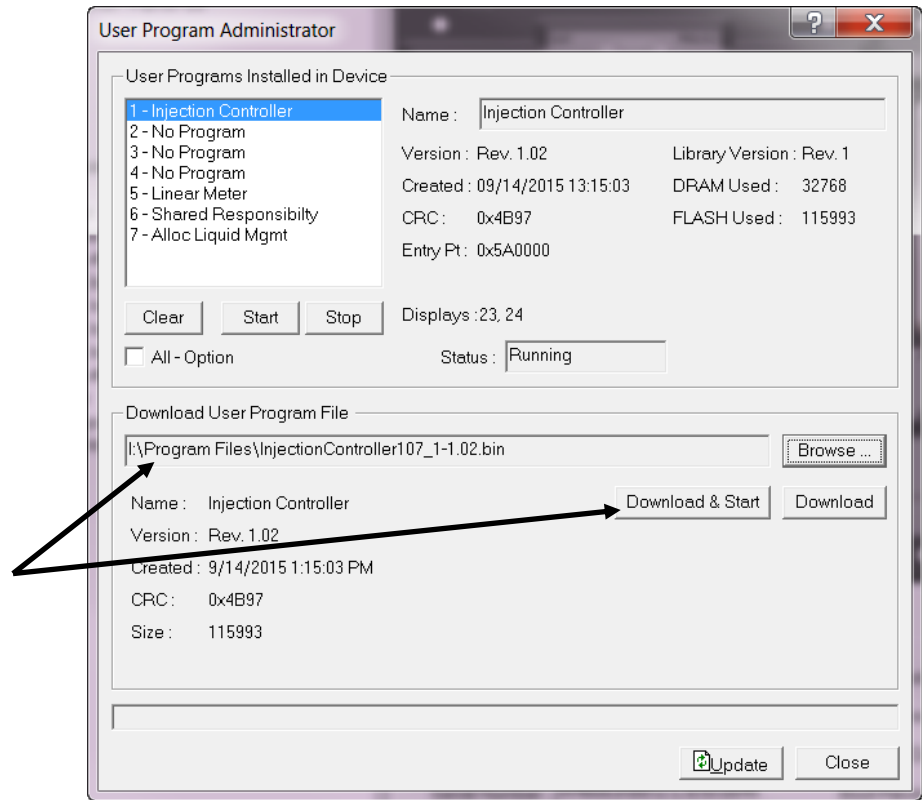

Figure 9. User Program Administrator
7. Click **Open** to select the program file. The User Program Administrator screen displays. As shown in *Figure 9*, note that the Download User Program File frame identifies the selected program and that the **Download & Start** button is active: